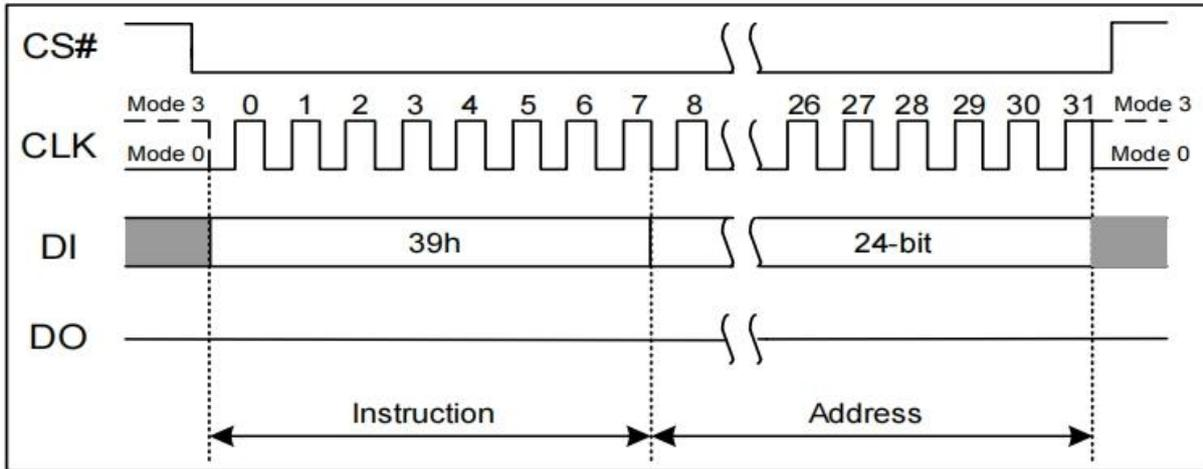

Figure 7.49 Individual Block/Sector Unlock Instruction(SPI Mode)
To unlock a specific block or sector as illustrated in Figure 7.49, an Individual Block/Sector Unlock command must be issued by driving CS# low, shifting the instruction code “39h” into the Data Input (DI) pin on the rising edge of CLK, followed by a 24/32-bit address and then driving CS# high. A Write Enable instruction must be executed before the device will accept the Individual Block/Sector Unlock Instruction (Status Register bit WEL= 1).